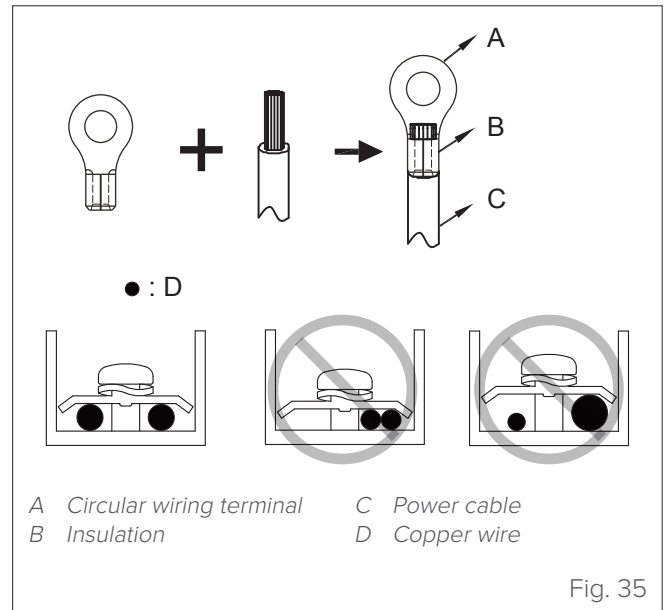

Fig. 35
To connect to the power supply terminal, use the insulated ring terminal “Fig. 35”.
- Do not connect two power cables with different diameters to the same terminal (this can cause the cables to overheat due to loose wiring) “Fig. 35”.